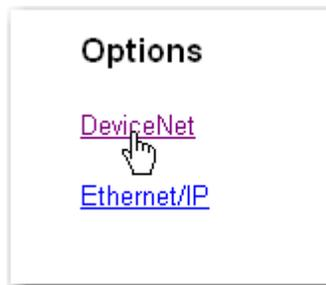

FIG. 215 OPTIONS PAGE/SELECTING DEVICENET
- Step 1. From the Home Page click on Configuration. The Configuration page appears. (See Fig. 215)